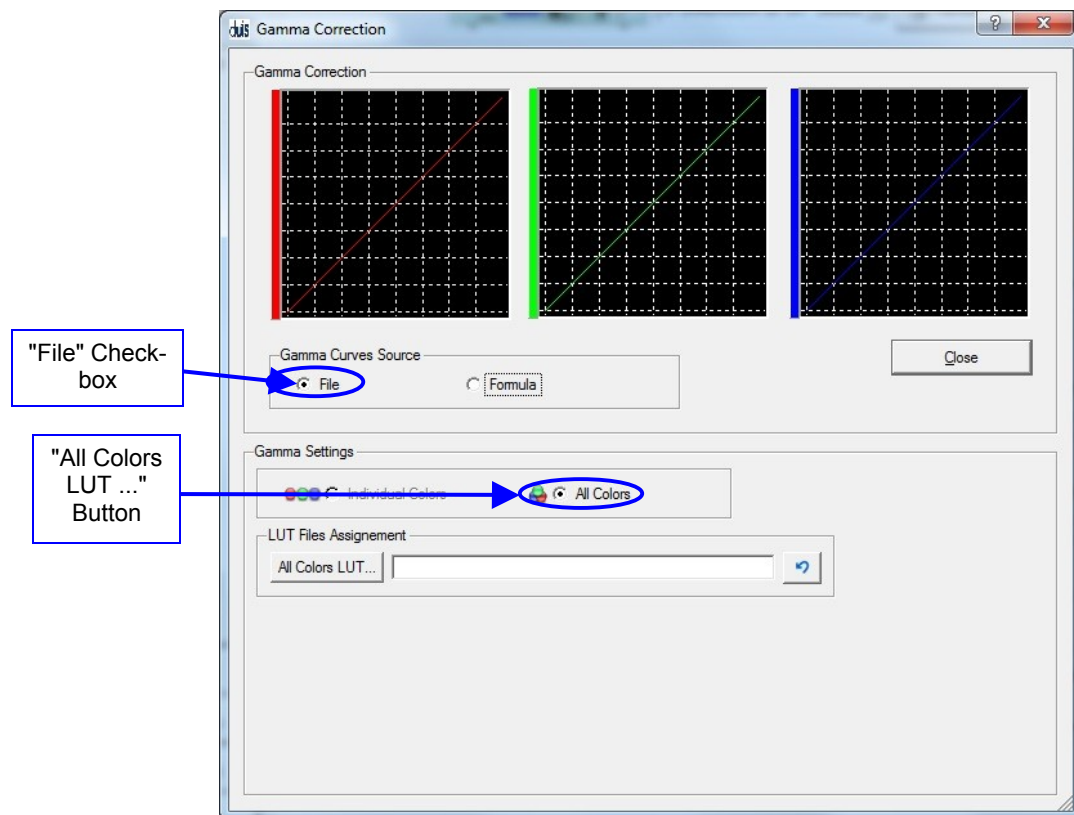

Figure 15: Doremi Universal Interface GUI – Gamma Correction and File
- Browse for the appropriate LUT file by clicking the “All Colors LUT ...” button (Figure 15).